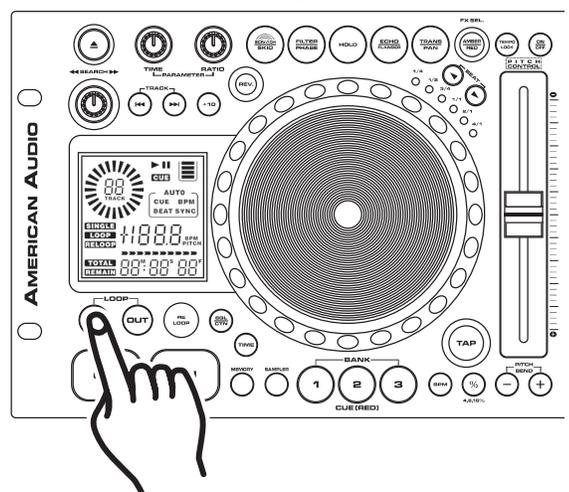

Figure 14
A cue point is the exact point playback will begin when the *PLAY/PAUSE BUTTON* (32) is pressed. You may set your cue points anywhere on a disc or in a track. You may set up to four independent cue points per disc. Three cue points are stored in the *BANK BUTTONS 1-3* (29) and one is shared by the *IN BUTTON* (25), and the *CUE BUTTON* (33). There are two (2) ways to set and create a CUE point as detailed in figures 14 and 15
- 1) You may press the *IN BUTTON* (25) on the fly (while the disc is playing). This will set a CUE Point without music interruption. Pressing the *CUE BUTTON* (33) will now return you to the same point that you pressed the *CUE BUTTON* (33). You may now store this CUE Point in any of the *BANK BUTTONS 1-3* (29). Pressing the *CUE BUTTON* (33), or the *IN BUTTON* (25) will now return you to this exact point.